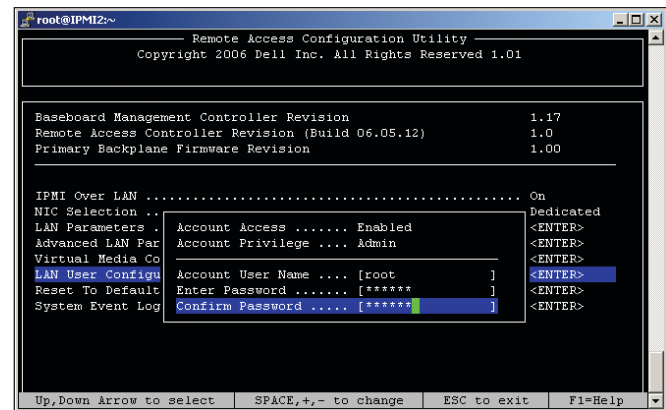

Figure 3. LAN User Configuration options in the Remote Access Configuration Utility
- In the LAN User Configuration options, set the Account Access parameter to Enabled and the Account Privilege parameter to Admin, and enter a password (see Figure 3).
For example, if during the Remote Access Configuration Utility setup the username was defined as “root” and the password was defined as “calvin” (see Figure 3), administrators could display the system event log using the following command: